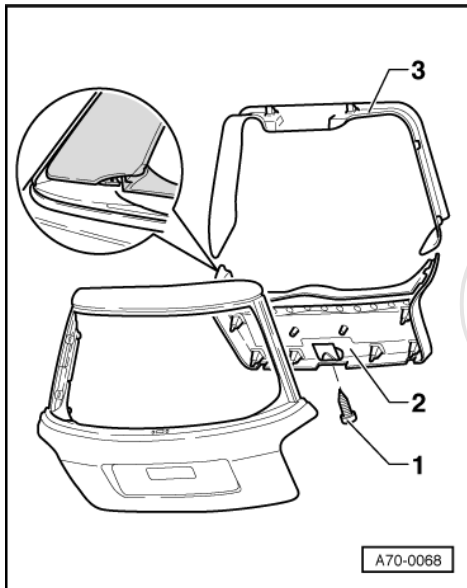

Fig.1 -> Removing and installing tailgate interior trim
- -> Remove tailgate interior trim =>Fig. 1 .